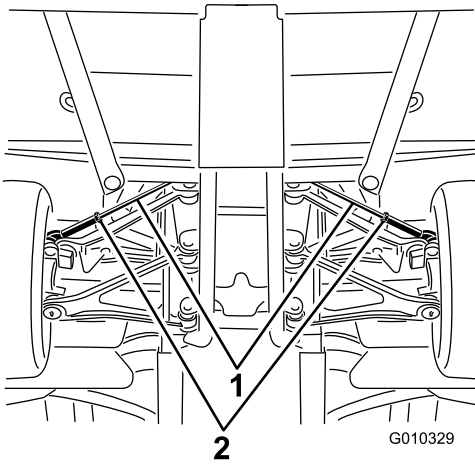

Figure 49
- A. Loosen the jam nut at the center of the tie rod (Figure 49).